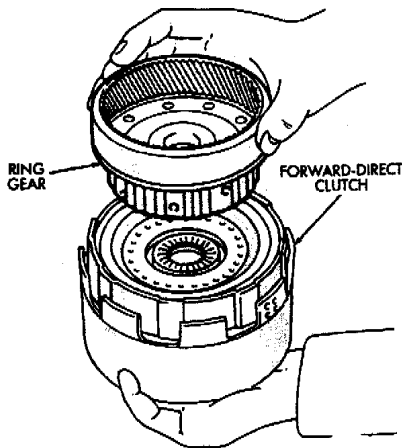

Fig. 27 Installing Front Planetary Ring Gear
- (34) Align and install front planetary ring gear in forward-direct clutch (Fig. 27).